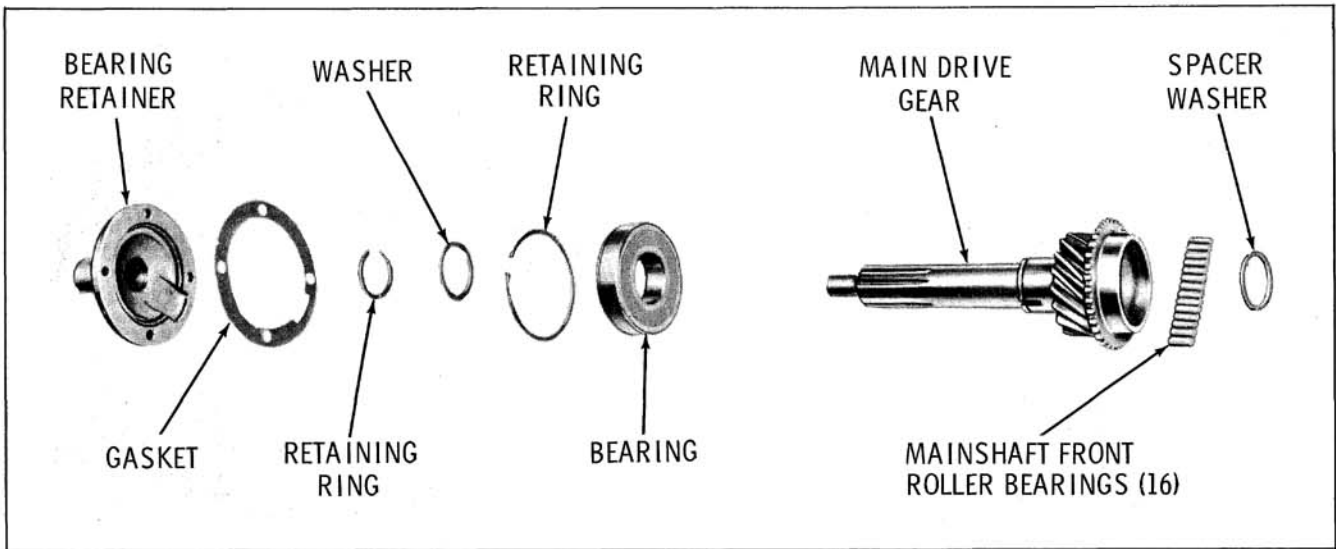

Fig. 7-38 Main Drive Gear
8. Remove the main drive bearing retainer and gasket. (Fig. 7-38)